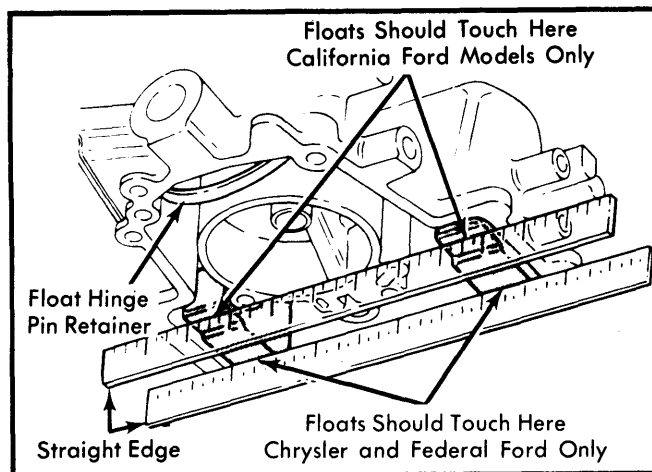

Fig. 1 Adjusting Float Level
1) With air horn removed, invert main body. Catch accelerator pump check ball and weight if not previously removed. Hold float hinge pin retainer in place with finger. See Fig. 1.